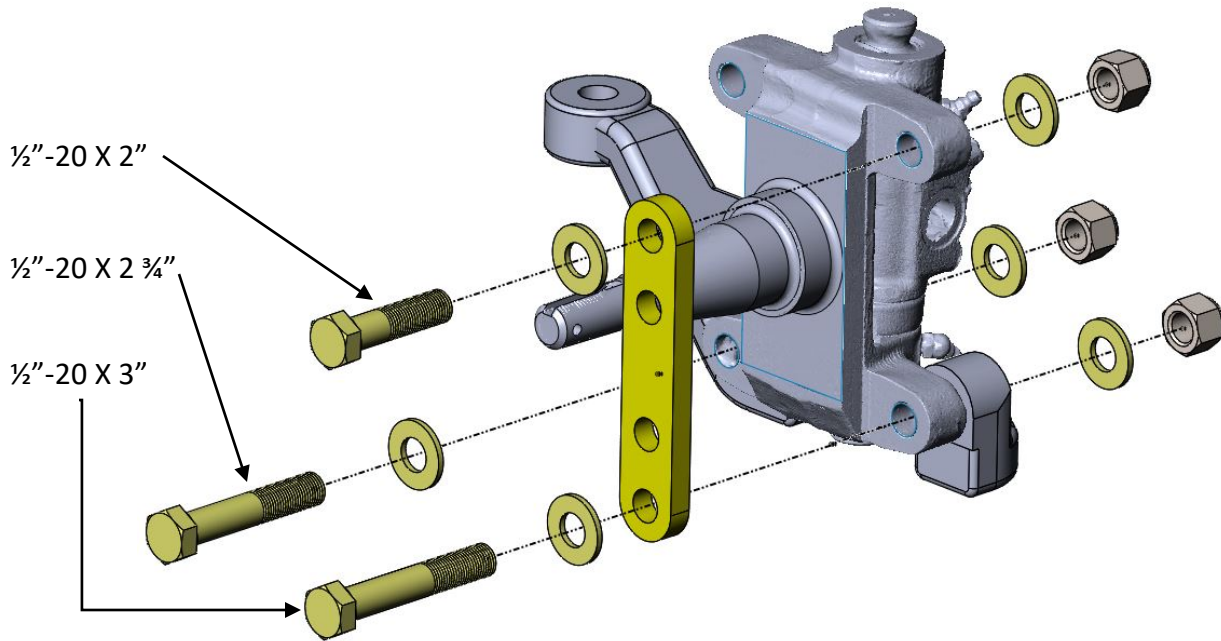

Figure 1 - Primary Caliper Mounting Bracket Installation (Passenger Side Shown)
4. Install the Primary Caliper Mounting Bracket onto the spindle using the provided ½"-20 x 2" and a ½"-20 x 3" Grade 8 Hex Head Bolt. Each bolt will utilize two ½" SAE Flatwashers along with a ½"-20 Nyloc Nut as well. **NOTE:** Install the Caliper Mounting Bracket on the leading side of the spindle avoiding any possible interference with the steer arms. Once the bracket has been assembled onto the spindle, insert a ½"-20 x 2 ¾" Grade 8 Hex Head Bolt through the remaining hole in the spindle and the steer arm. This bolt will also utilize two ½" SAE Flatwashers and a ½"-20 Nyloc Nut as well. Once all bolts have been installed, they can be torqued to 100 lbs/ft. Figure 1 on the next page shows the Primary Caliper Mounting Bracket installation to the spindle.